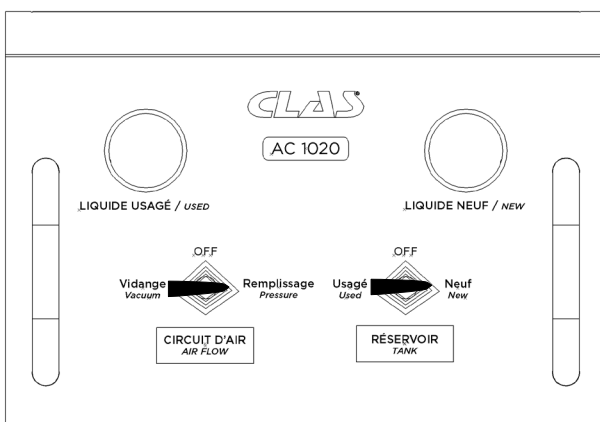
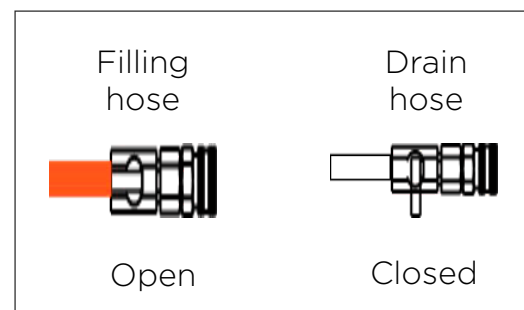

Fig. 8
Fig. 9
- To begin the operation, open the filling valve (orange hose) (Fig.9). Set the "Air flow" valve to "Pressure" and the "Tank" valve to "New" (Fig.8). To avoid accidentally pressurizing the system, the pressure exerted will be limited by the device to 0.5bar.